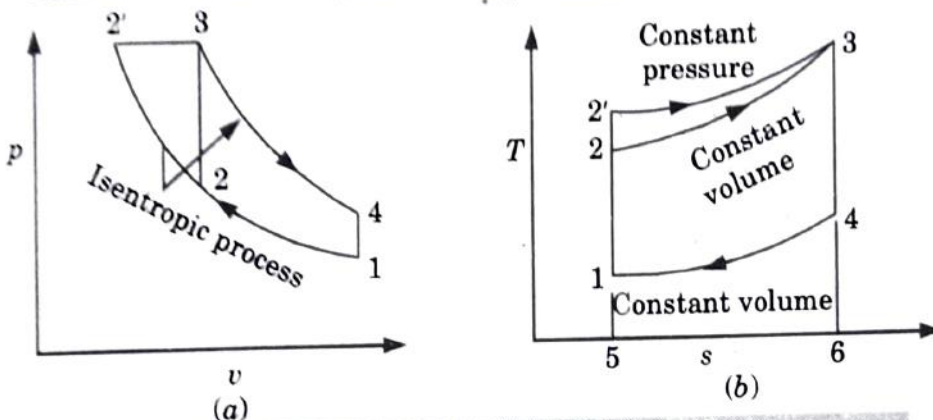

Fig. 1.19.3. Same peak pressure, temperature and heat rejection.
1. In Fig. 1.19.3, Otto and diesel cycle are shown on $p-v$ and $T-s$ diagram as :